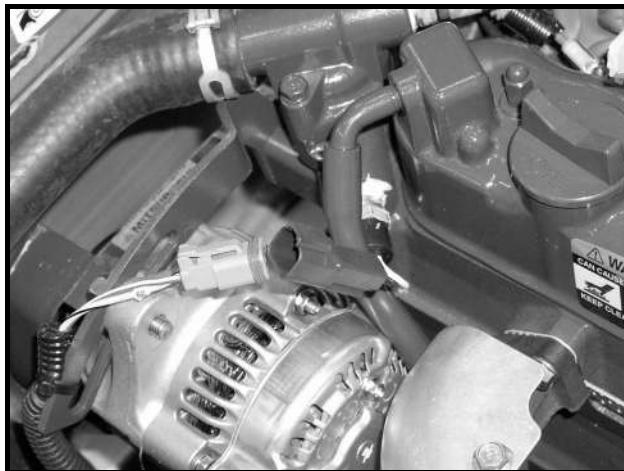

Figure 11b-17 Thermostat Switch
2. Disconnect the two-pin connector between the thermostat switch and the wire harness (**Figure 11b-17, Page 11b-21**). **See following WARNING.**